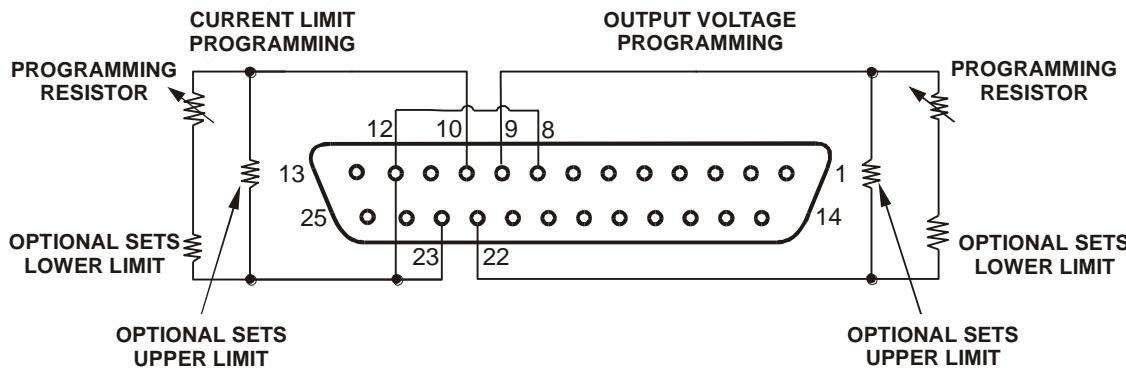

Figure 6-2: Remote Voltage Programming Connection
6. Connect the programming resistors to the mating plug of J1 as shown in Figure 6-2.